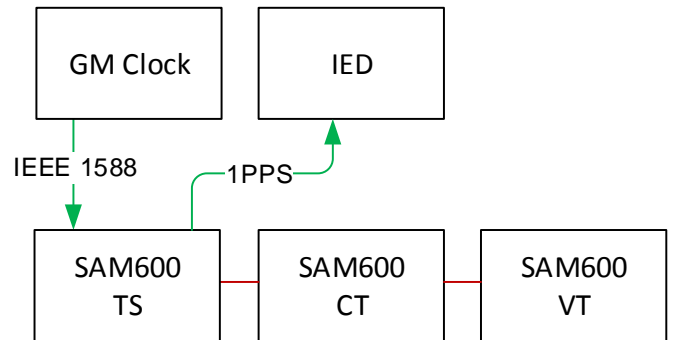

Figure 3. SAM600 IEEE 1588 synchronization
- *Synchronization by IEEE 1588* – Any SAM600 module can synchronize against an external IEEE 1588 master clock (see Figure 3) with an accuracy of 1µs in order to ensure synchronous sampling. If a SAM600-TS device is available in the system chain, then the 1PPS outputs are synchronized against the IEEE 1588 signal and can be used for synchronizing client devices such as IEDs.